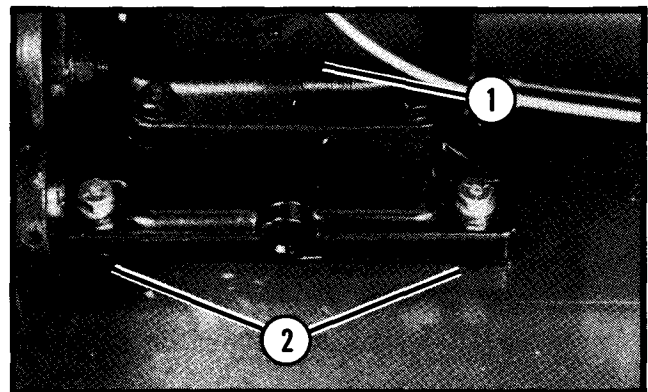

Figure 17. 1/16" Of The Chassis Slot Showing
2. Slide the engine toward the rear until 1/16" (2 mm) of the slotted holes are visible (See Figure 17). Slide the engine to the side, pushing the hardware against the sides of the slots to square the engine with the chassis. Tighten the hardware enough to hold it in place.